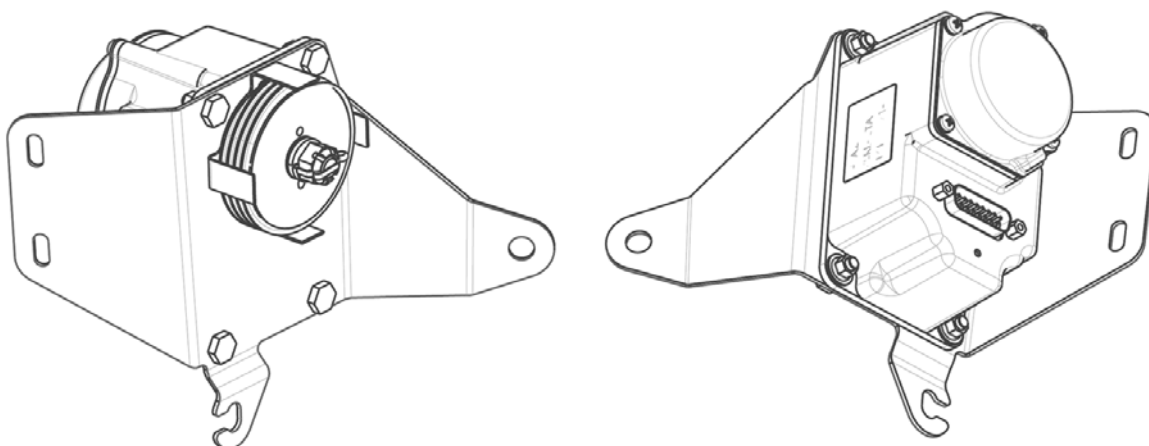

FIGURE 14-39
4. Line Cable Guard in ortho position relative to the Servo as shown in Figure 14-39. Secure with washer and screw from Capstain Kit. Torque to 8± in-lbs.
Task is complete when the Roll Servo Subassembly has been assembled as shown in Figure 14-39.